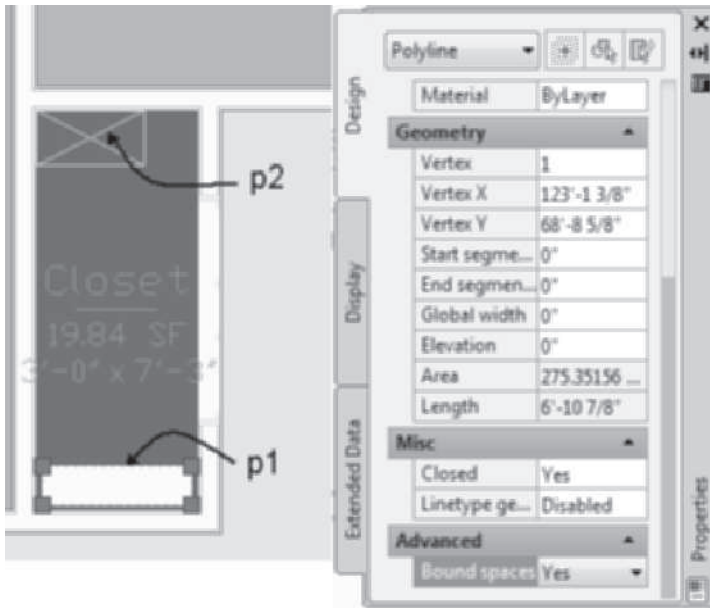

FIGURE 4.13 Interference condition created with space
7. Select the polyline at p1 as shown in Figure 4.13. Verify that the Polyline entity is selected in the Properties palette. Expand the Advanced category. Scroll down within the Properties palette to display Bound Spaces. Edit Bound Spaces to Yes. Press ESC to clear the selection and view revised space geometry.
8. Select the chase at p2 as shown in Figure 4.13. Edit Bound Spaces to Yes in the Basic section of the Properties palette. Space is revised to exclude the chase. Press ESC to end the command.